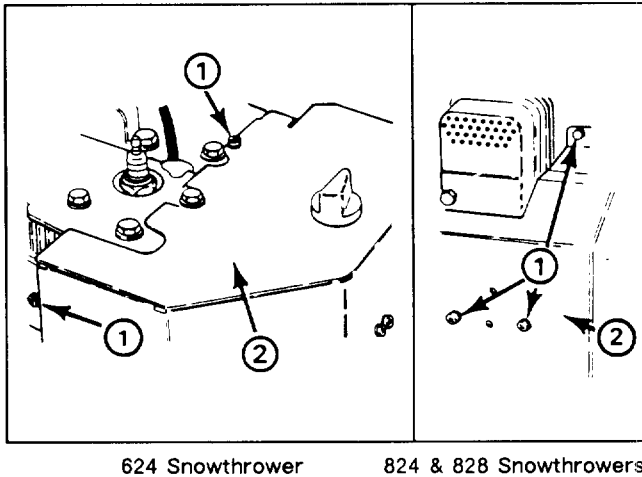

Figure 17
**Note:** If engine is operated when temperature is +40° F (4° C) or higher, remove carburetor heater box. However, the heater box (Fig. 17) must be reinstalled when temperature falls below +40° F (4° C). To remove heater box: